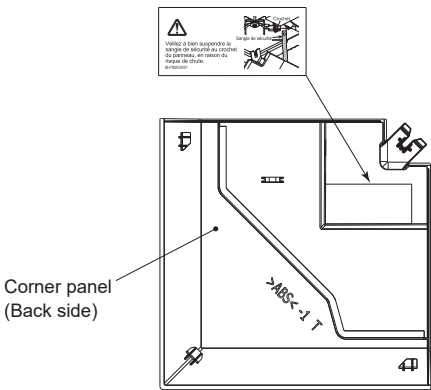

Fig. 6-14
- ③ Screw
- ④ Corner panel
- ⑤ Safety wire
- ⑥ Hook
- ⑦ Refrigerant piping of the main unit
- ⑧ Drain piping of the main unit
- ⑨ MITSUBISHI ELECTRIC label
- ⑩ Initial position of the levers on the intake grille
6.7. French label (Fig. 6-14)